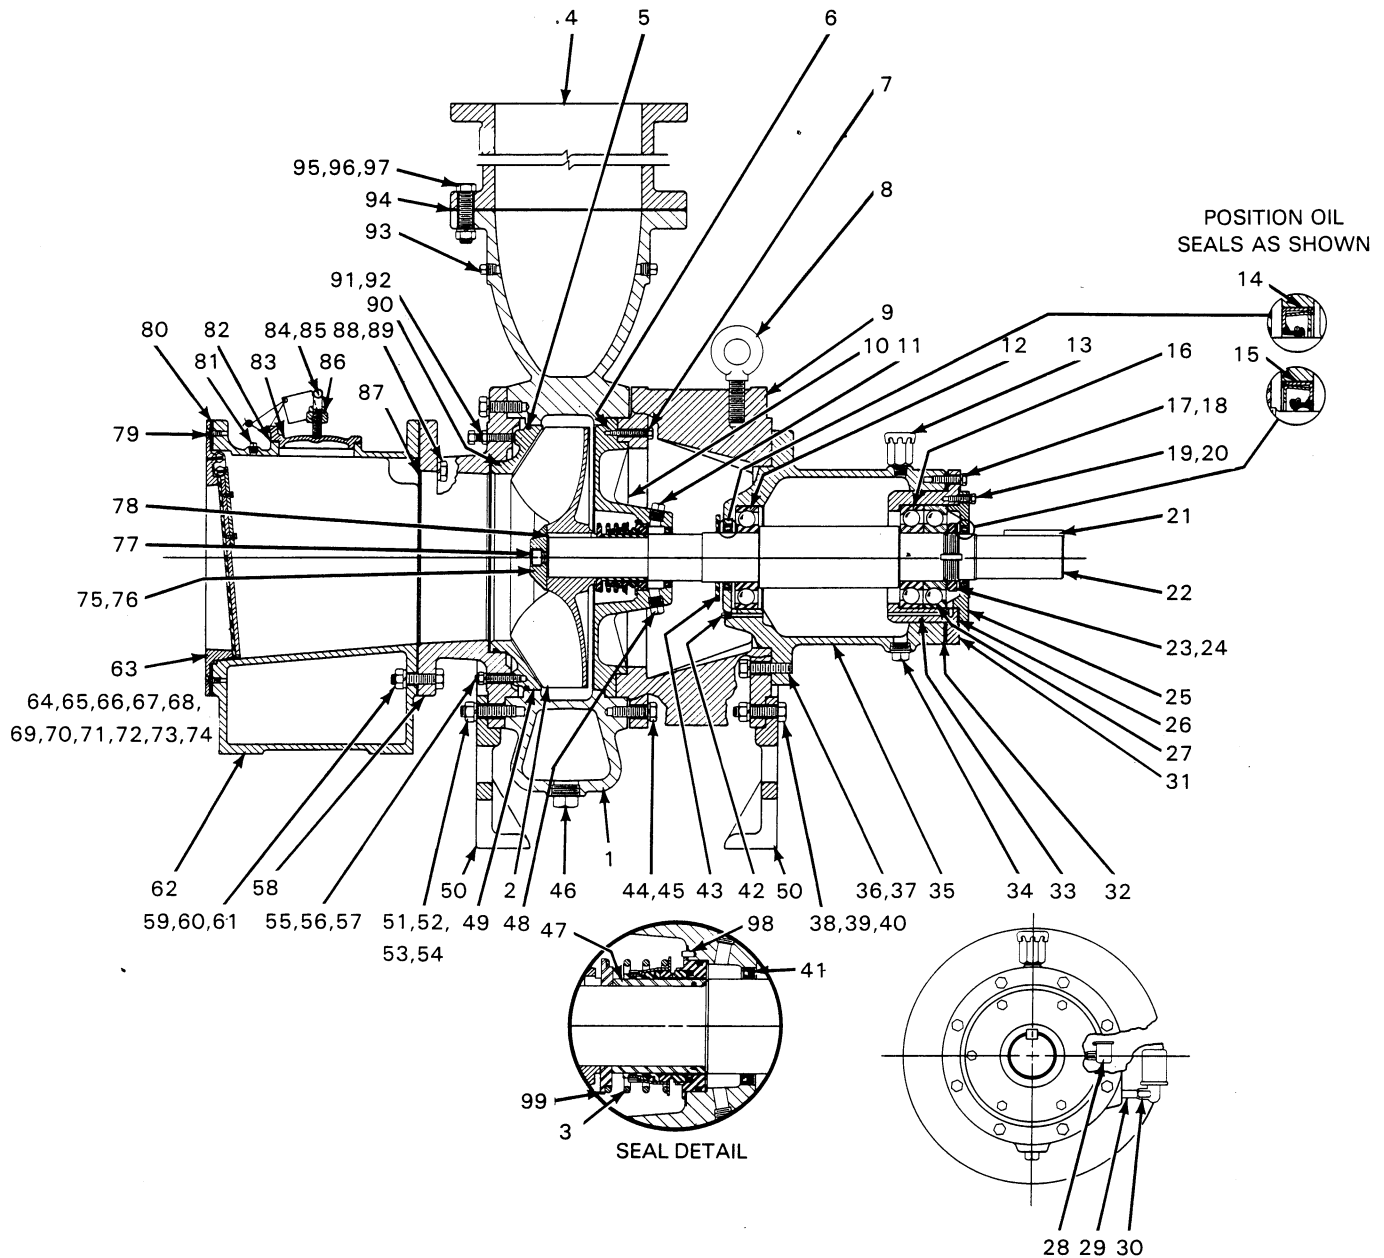

Figure 2. Pump End Only Model 112C60-B-7123
Close all connecting valves, and remove the volute housing drain plug (46, figure 2) to drain the pump. Clean and reinstall the plug after the pump has been drained.
Inspect the bearing cap oil seal and replace it if worn. Install the oil seal in the bearing cap with the lip of the seal toward the bearings as shown in figure 2.
Inspect the pedestal body oil seal (14) and replace it if worn. Install the oil seal in the pedestal body with the lip of the seal toward the bearing as shown in figure 2. Install the slinger ring on the shaft.